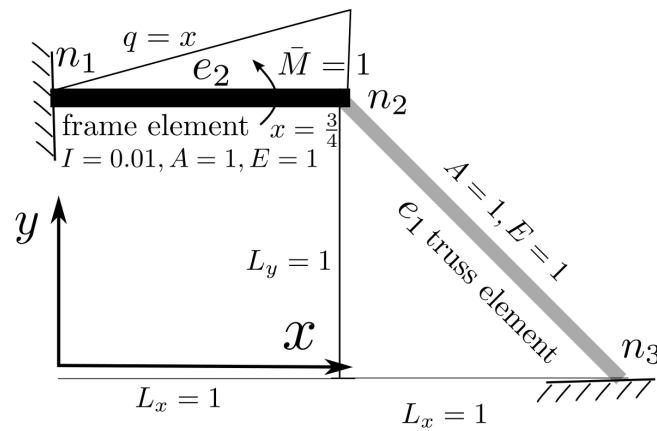

Figure 2: Frame and truss example.
- Obtain the stiffness matrix for finite element method, using equation (373) in section 2.2 of course notes. **(10 Points)**
- For the truss shown in figure the prescribed dofs are:  $\bar{U}_1 = \bar{U}_2 = \bar{U}_4 = \bar{U}_5 = 0; \bar{U}_3 = \frac{1}{10}$ . For all truss members  $E = 1, A = 1$ . Other information is provided in the figure 2.